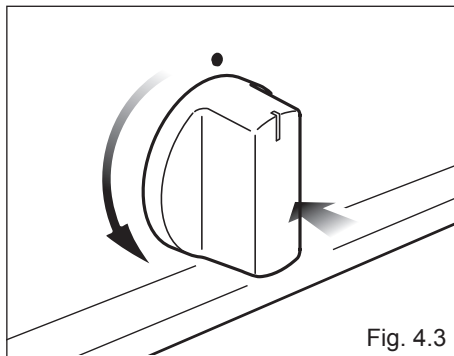

Fig. 4.3
2. Lightly press and turn the thermostat knob anti-clockwise (fig. 4.3) to maximum position **Max**★ (fig. 4.1). Press the knob firmly until the burner lights.